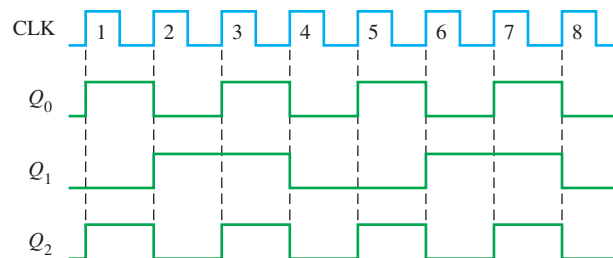

FIGURE 9-80
40. From the waveform diagram in Figure 9-80, determine the most likely fault in the counter of Figure 9-15.